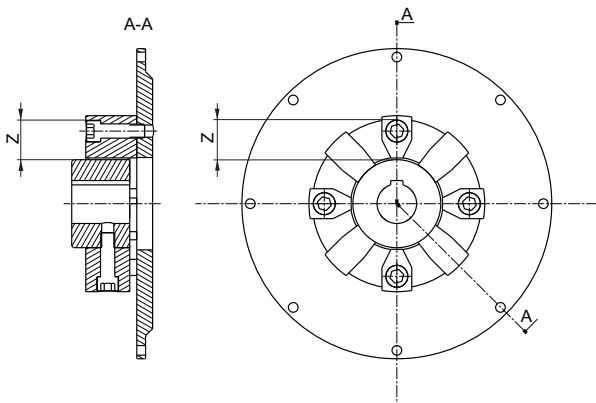

Fig. 33 Connection and alignment of pump and engine
The coupling is bolted axially on the engine flywheel. The pump shaft is pushed in axially and bolted radially with four bolts. See fig. 33.
3. Measure the distance "Z" at the rubber element of all axially bolted points. See fig. 33. The distance must be 50 mm. If the alignment is correct, proceed with step 4. Otherwise, align pump and engine. See below.